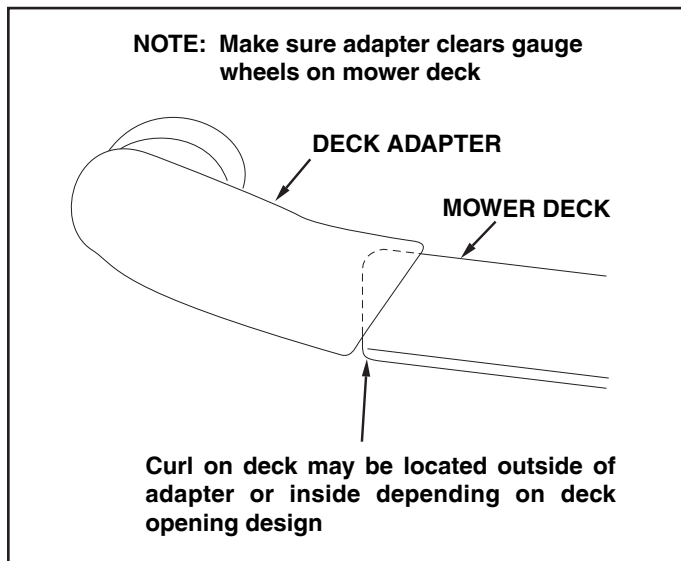

FIGURE 12
- Position the adapter over the deck opening, and check for fit of cutout as shown in figure 12. Trim cutout, if necessary, to allow tilting of adapter, keeping the fit as close as possible for best vacuum suction.